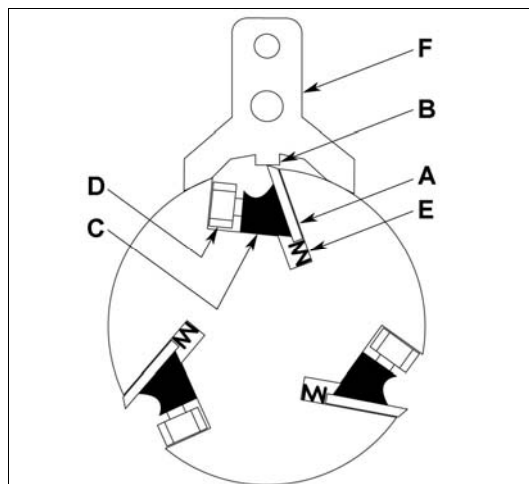
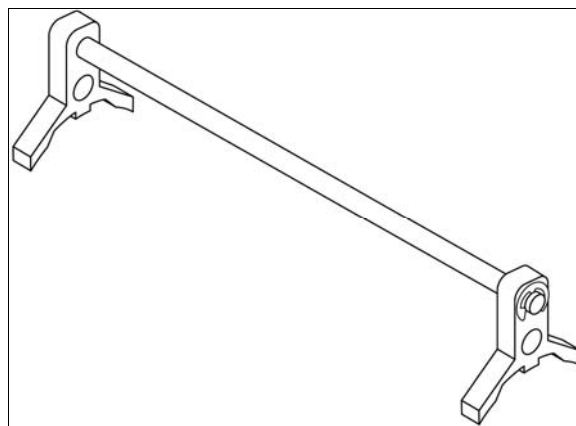
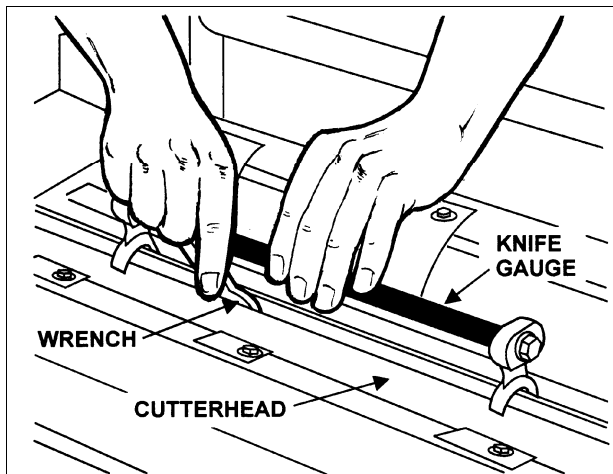

Figure 21
Figure 22
Figure 23
3. To check and adjust the knives, use the provided *knife gauge* (Fig. 22) and check all three knives. Press the knife gauge against the cutterhead as shown in Figure 23.
Referring to Figure 21:
7. After all three knives are set with screws just snug, back out and tighten the six gib screws (D, Fig. 21 & Fig. 23) of the first knife against the slot starting with the end screws, then the center screws, until the knife is securely held in the cutterhead. Tighten remaining two knives in the same manner.
Refer to Figure 21:
8. Place knife gauge (Fig. 23) over knife.
Still referring to Figure 21: